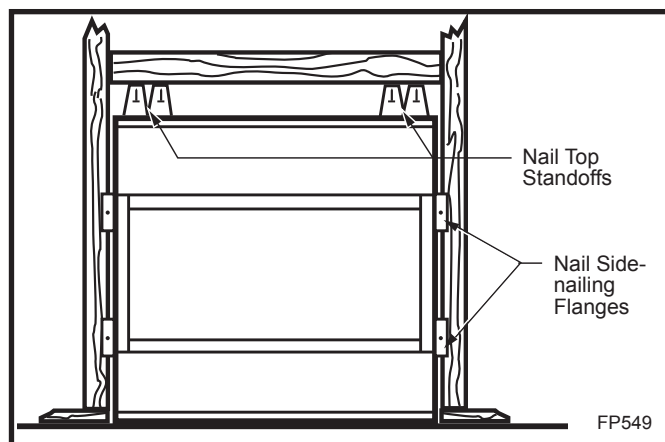

Fig. 5 Nailing flanges.
2. Nailing flanges are supplied with the fireplace (found on the fireplace hearth). To level the box and secure it firmly in place, remove the nailing flanges from the hearth and install at the sides of the fireplace as shown in Figure 5.